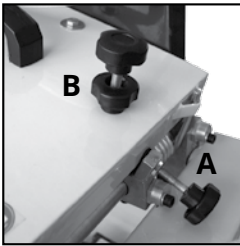

Fig. 1
- 2nd **Fig. 1** Loosen the star grip screw (A) on the cutting head unit (4) and push the cutting arm all the way up. Lock the cutting arm with the star grip (B) on the cutting head unit (4).